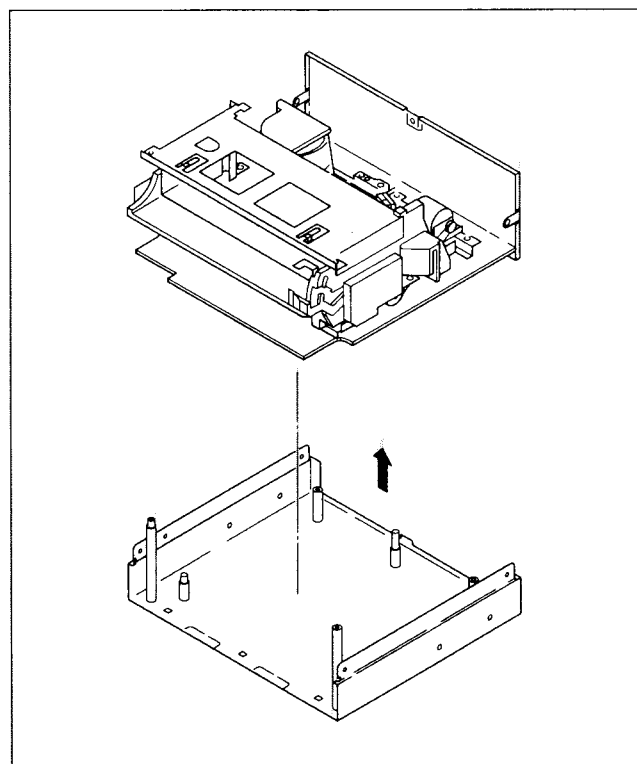

Fig. 1-5-2
- (4) Remove the Mechanism assembly (including Cassette housing) and Main board assembly out of the chassis as shown in Fig. 1-5-2.